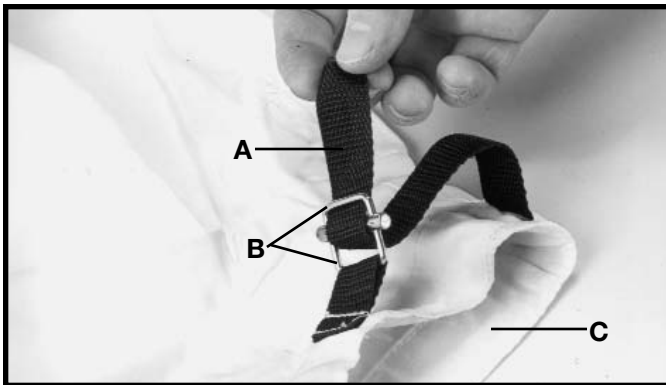
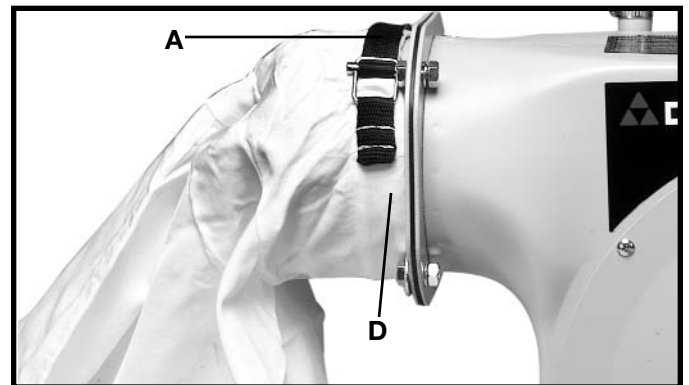

Fig. 19
Fig. 20
Loosely thread end of dust bag strap (A) through clamp (B) as shown in Fig. 19. Place open end of dust bag (C) Fig. 19, over outlet flange (D) Fig. 20 and firmly pull strap (A) to fasten dust collection bag to outlet flange.